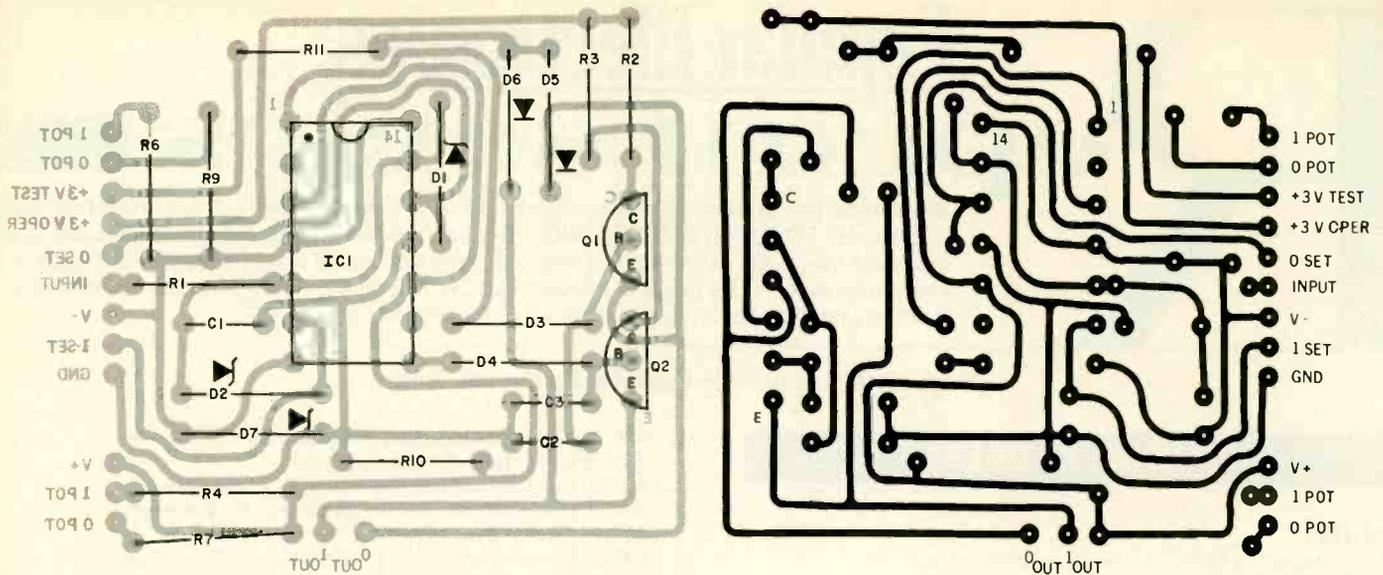

Fig. 2 Foil pattern (right) and component installation.
**Construction.** The tester can be assembled on a printed circuit board using the actual-size etching and drilling guide shown in Fig. 2. However, if care is exercised, the circuit could be assembled on perforated board using point-to-point wiring.